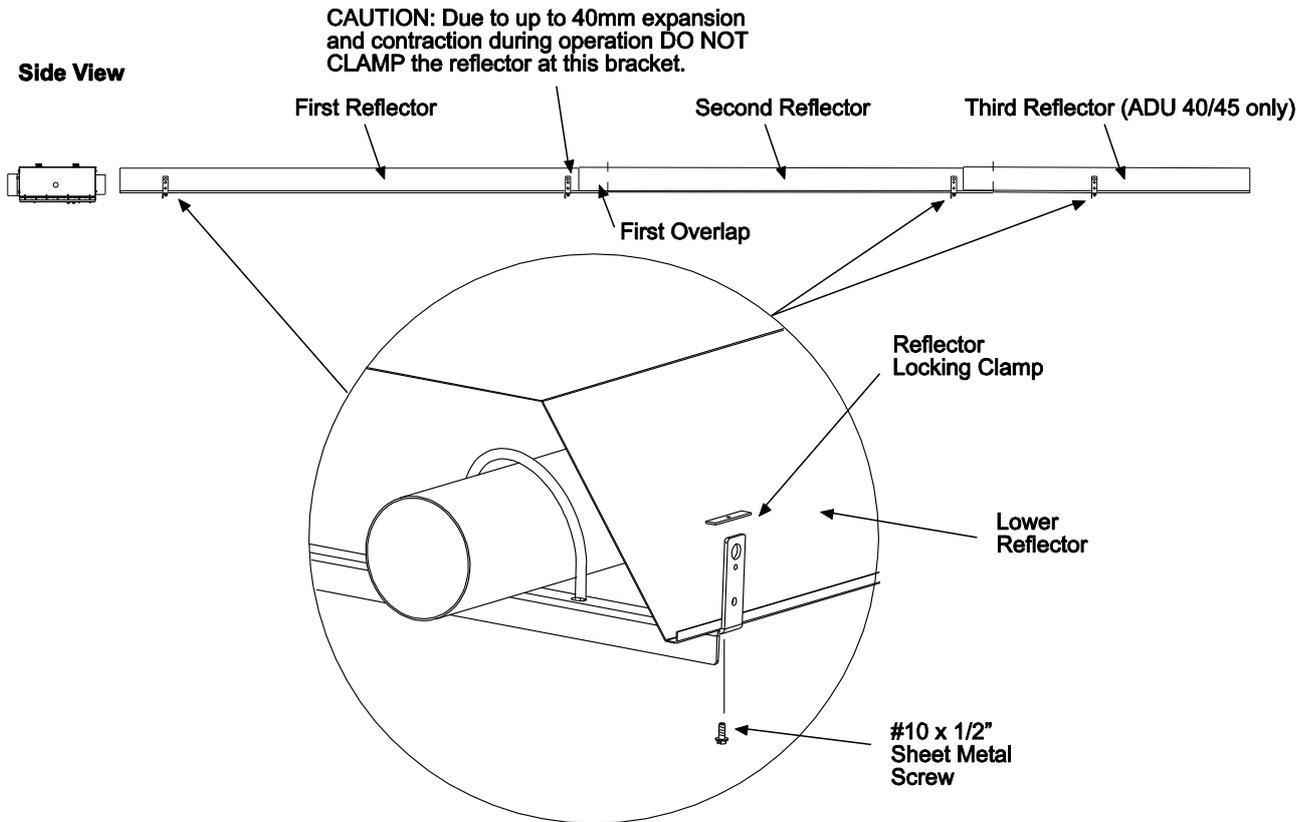

Fig. 21k
10. With the lower reflector panels in place secure the reflectors to the hanger brackets on both sides of the reflector as shown in figure 21k.
- III. Repeat this at each hanger bracket specified in figure 21k.